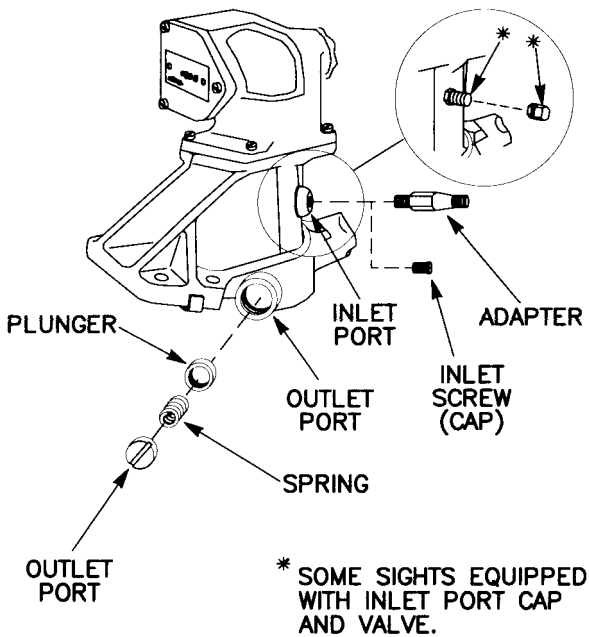

Figure 3-53 M44C Infinity Sight
(1) Perform purging and charging procedure para 2-5.b.
(2) Purge instrument at 5 psig for 5 minutes.
(3) Charge instrument at 1 psig for 10 seconds.
(4) Leak test for a minimum of 5 minutes.
c. M44C Infinity Sight (fig. 3-53).